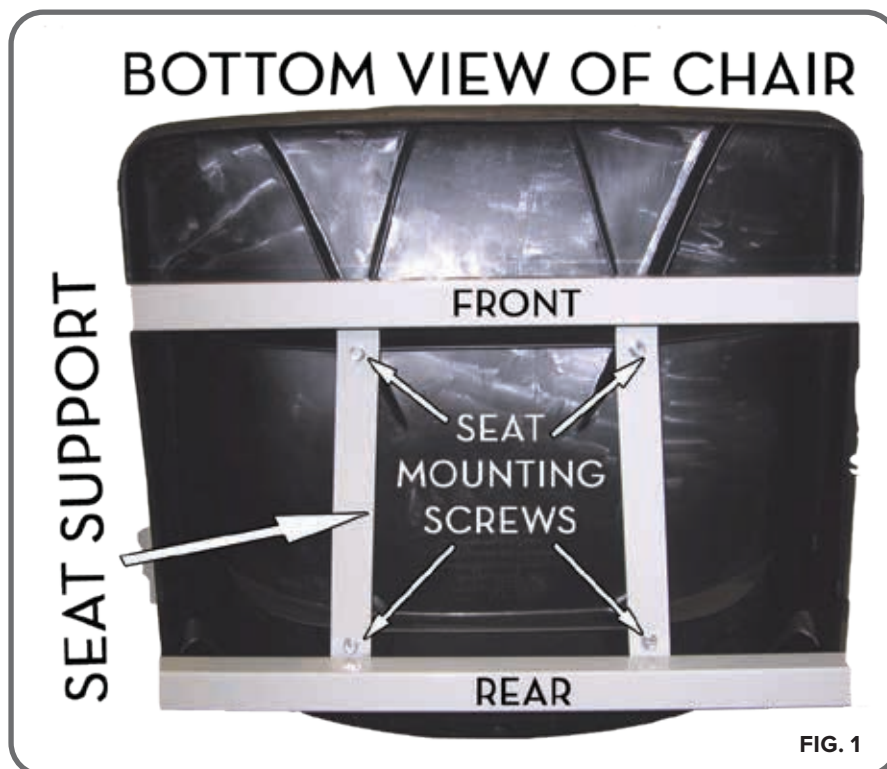

FIG. 1
3. Using the included wrench (or your own $\frac{5}{16}$ " tool), install the **four (4)** included Seat Screws through the holes of Chair Frame, and into the **four (4)** holes on bottom of the plastic Seat. Make sure screws are completely tightened (**FIG. 1**).
1. If the **Arm Assembly** has not yet been installed, insert it into the **Receiving Tube** on the **Seat Frame Assembly**. (FIG. 1) This applies to any style arm assembly.